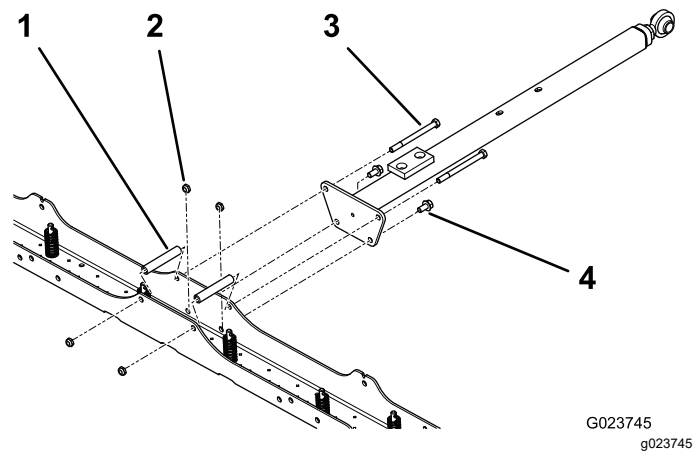

Figure 4
1. While aligning 2 long spacers with the top bolt holes in the bottom plate, use 2 locknuts (3/8 inch) and 2 bolts (3/8 x 4-1/2 inches) to secure the drawbar to the bottom plate (Figure 4).